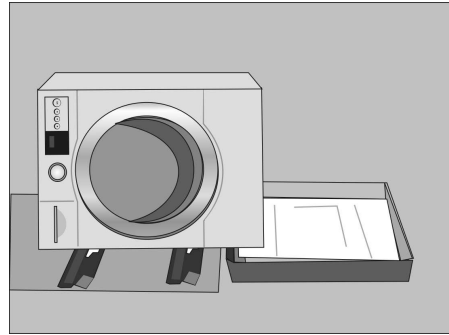

Figure 6
4. Lay the appliance on its **LEFT** side (see Figure 6).
4. Lay the appliance on its **LEFT** side (see **Figure 6**).